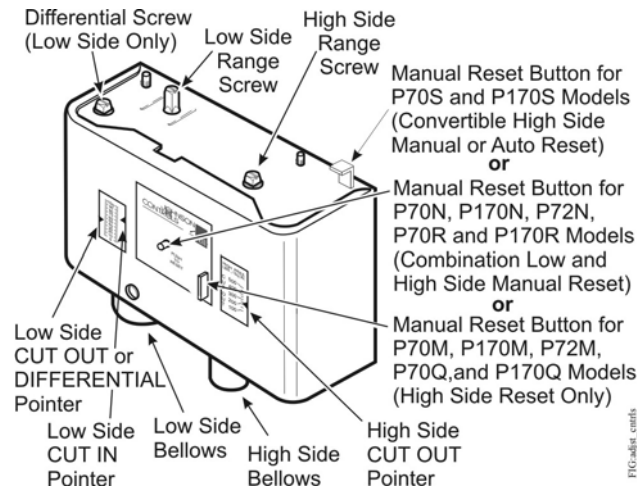

Figure 9: Adjusting the Dual Pressure Controls
Adjustment of the P70, P72, and P170 dual pressure controls varies depending on the model. The following guidelines and diagrams illustrate the procedures for adjusting these controls. Refer to the product label inside the control cover for model number and switch action, and check the front of the control cover to determine if the control is All-Range or MICRO-SET® model. See Figure 9 for an illustration and instructions on control adjustments.
4. Set the reset operation (on P70S and P170S models only) for high side automatic reset or manual reset lockout. See Convertible High Pressure Reset Mechanism on P70S and P170S Controls and Figure 9